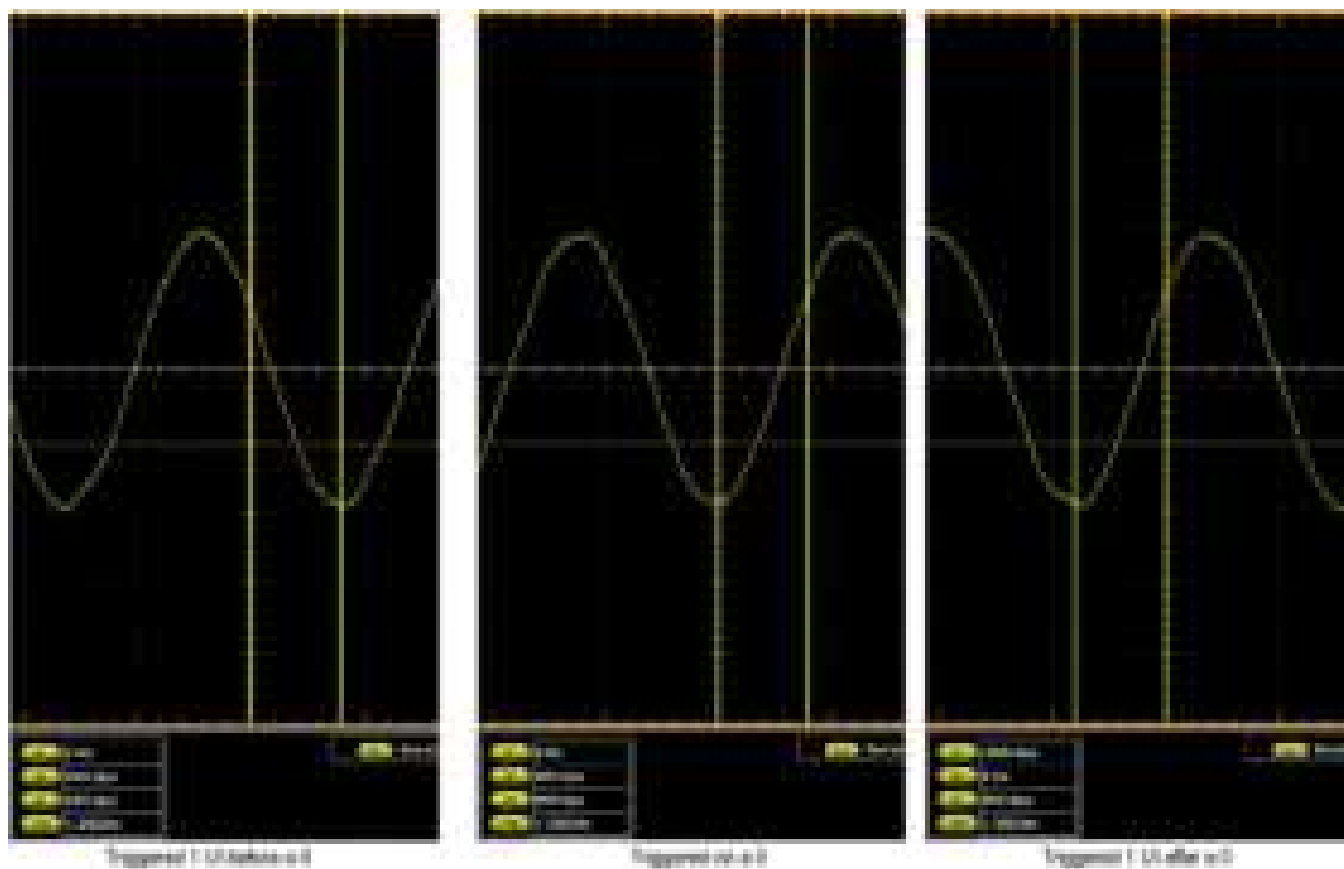

Figure 42: Isolated 0 triggering
- l. Center Cursor 2 in the low of the waveform just to the right of the center graticule line (See Figure 42: Isolated 0 triggering on page 274.)
- q. Center the Cursor 1 in the low of the waveform nearest the center graticule line. (See Figure 42: Isolated 0 triggering on page 274.)
- v. Center Cursor 1 in the low of the waveform just to the left of the center graticule line. (See Figure 42: Isolated 0 triggering on page 274.)
- w. Verify that the instrument triggers one Unit Interval (UI) after the 0 in the input signal. The absolute value of the T2 cursor readout must be  $\leq 325$  ps. Enter pass or fail in the test record.